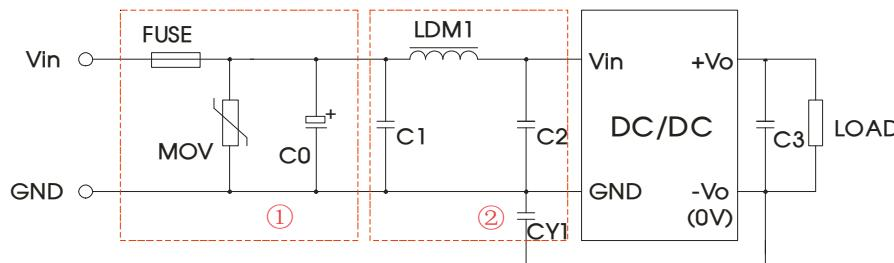

Fig. 3
Notes: 1.We use Part ① in Fig. 3 for Immunity tests and Part ② for Emissions test. Selecting based on needs.